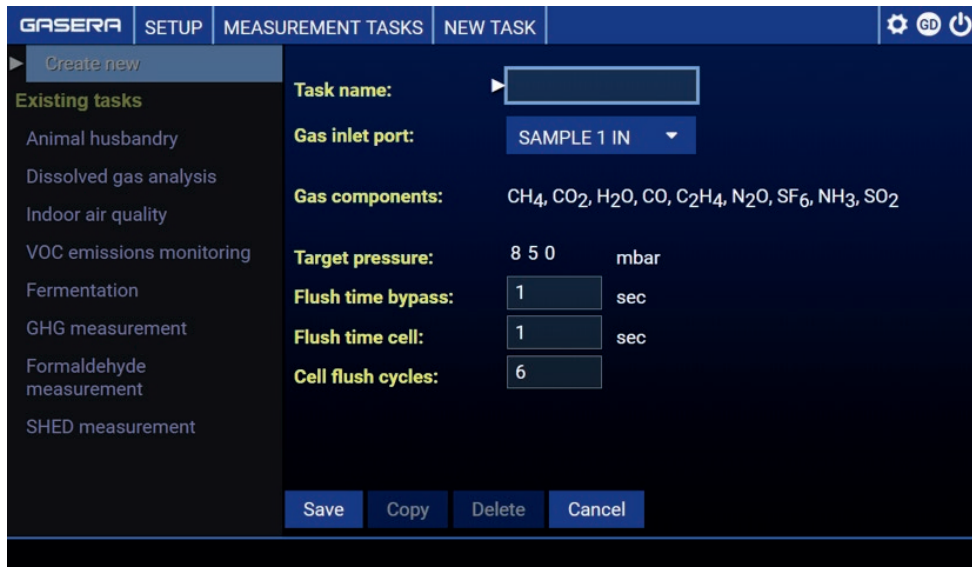
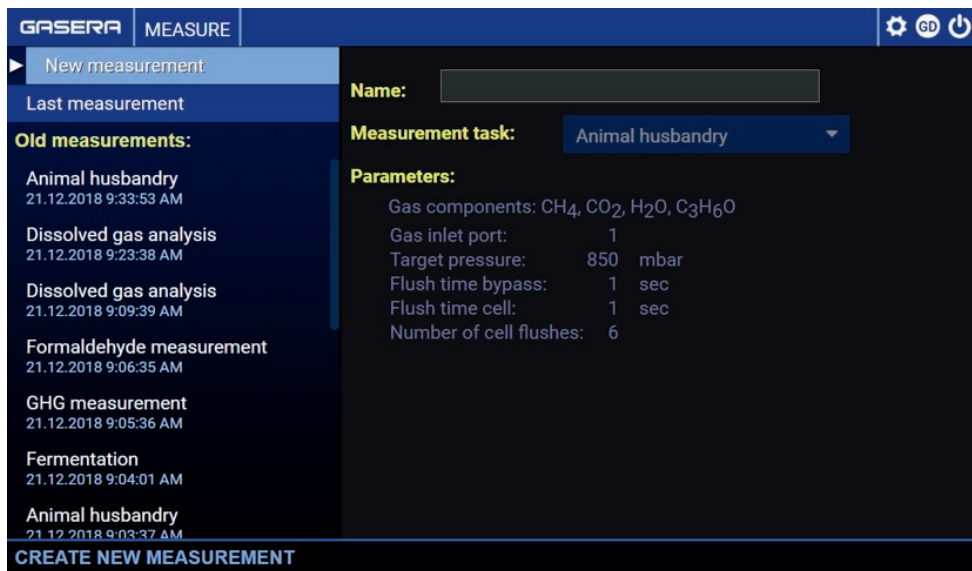

Figure 17. Configuration of Measurement Task.
Figure 18. Configuration of individual Measurement.
When modification of measurement parameters is needed, a new Measurement Task should be created to keep parameter modifications consistent for all measurements. An example of Measurement Task configuration is presented on Figure 17. Measurement Task setup is described in detail in chapter 8.3 on page 48.
**Measurement** is a continuous process consisting of multiple measurement iterations. When individual measurement is started, GASERA ONE repeats the iterations automatically until the measurement is stopped. An example of configuration of individual measurement is presented in Figure 18. Measurement setup is described in detail in chapter 6.2 on page 27. To understand the concept of Measurement vs. Measurement Task, please compare Figure 17 and Figure 18.